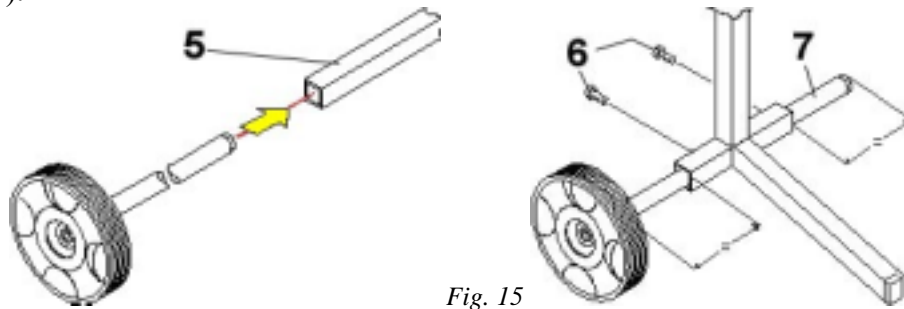

Fig. 15
- 4 Insert the wheel and the axle into the lower tube **5** of the frame. Place the axle **7** so that it is centered in comparison with the frame and subsequently block using the screws **6** (fig. 15).